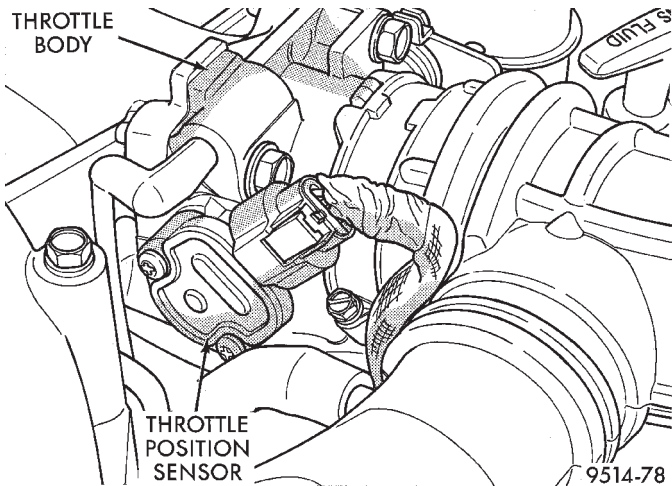
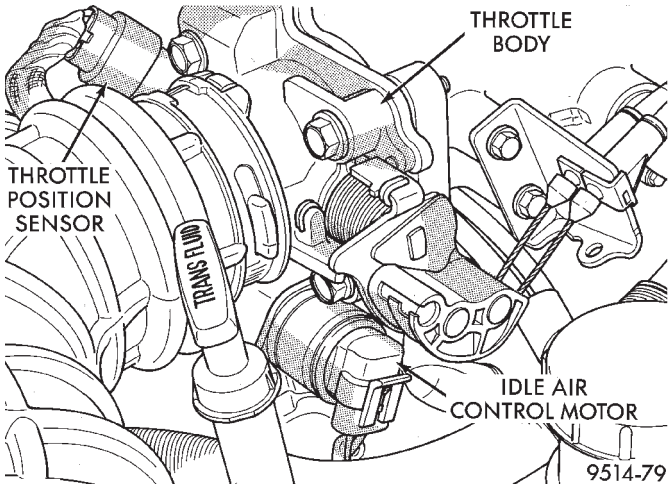

Fig. 32 Throttle Position Sensor
Fig. 33 Idle Air Control Motor
- (5) Loosen throttle body air inlet hose clamp.
- (6) Release snaps holding air cleaner housing cover to housing.
- (7) Remove air cleaner cover and inlet hoses from engine.
- (8) Unplug TPS and idle air control motor connectors (Fig. 32) and (Fig. 33).